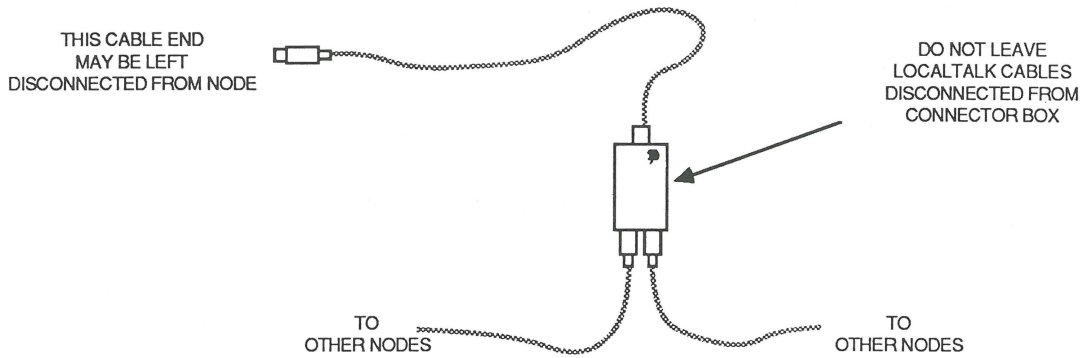

FIGURE 6
- Disconnect the connector from the node and leave the connector attached to the network (Figure 6).